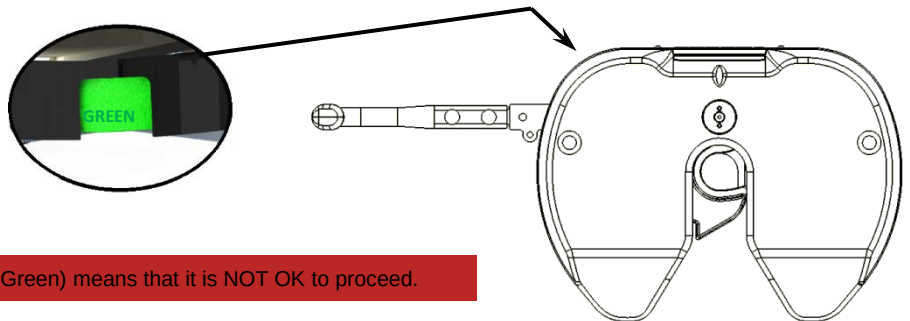

FIG. 11
2. Back truck slowly into trailer so the trailer king pin and 5th wheel funnel align. Hitch will latch automatically when truck is backed completely into trailer king pin. When this occurs, the indicator will be 100% **green** (pg. 4, fig. 11).*